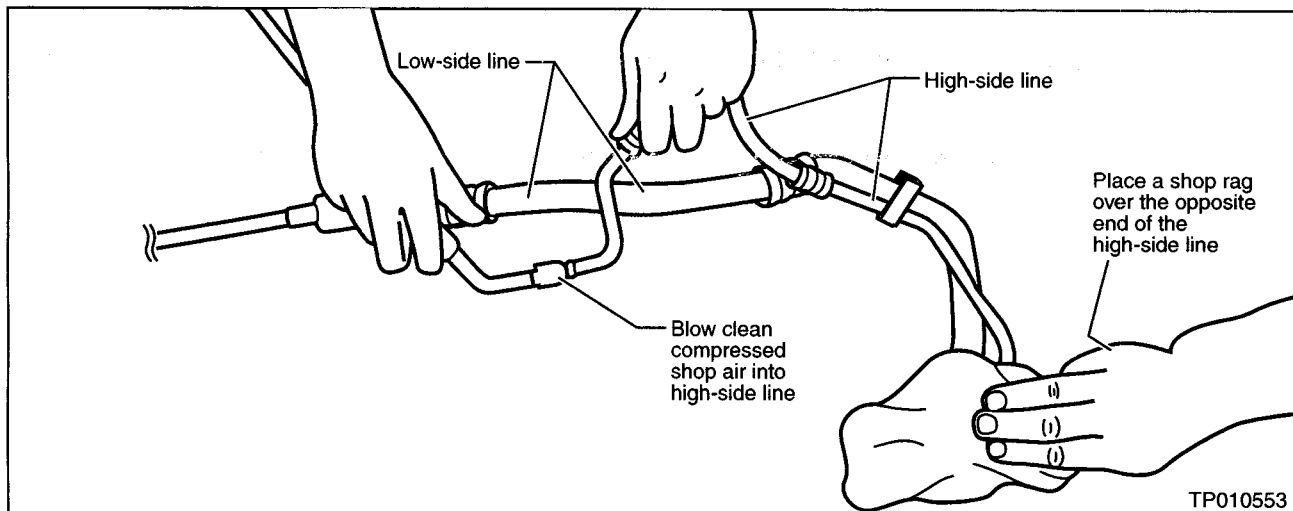

Figure 1
20. Inspect the inside of the high-side line for debris. If debris is found, remove it by blowing clean compressed shop air into the high-side line (see Figure 1).